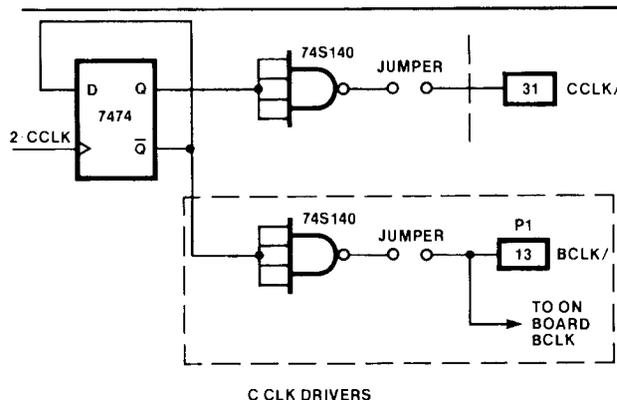
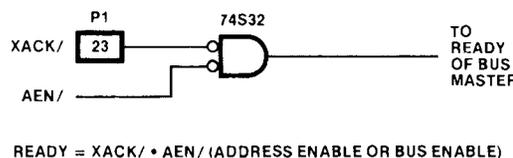
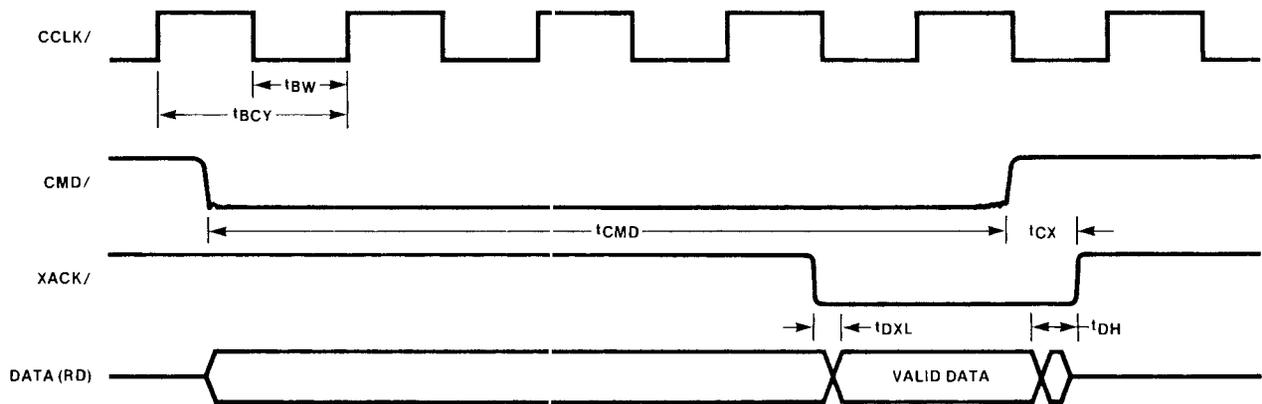

Figure 5-3. C CLK DRIVERS
Figure 5-4. XACK/ Design Example
Figure 5-6. Control Logic AC Characteristics
The AC timing of the command lines is shown in Figure 5-6.
**5.1.1.2 CCLK** This clock provides a MULTIBUS timing source which can be used by slave modules to generate internal timing such as XACK/. The design example is found in Figure 5-3. The master derives a 2X clock source which is divided by 2 using a 7474 Flip-flop. This is done to provide a 50% duty cycle to the clock driver chip (74S140). The output of the clock driver must go to a jumper so that the user has the option to disconnect the signal if another source is available. The AC characteristics are shown in Figure 5-6.
**5.1.1.3 TRANSFER ACKNOWLEDGE** The Transfer Acknowledge signal (XACK/) informs the MULTIBUS master that the operation it required on the bus is completed. The transfer acknowledge (XACK/) circuitry shown in Figure 5-4 is a simple negative true AND gate (74S32). The XACK/ signal is gated through (and is inverted) only if the MULTIBUS master has control (AEN/ is active, see Bus Exchange - Section 5.1.5.). The trace routing of XACK/ on the PC board should avoid command and clock lines to minimize capacitive coupling, and the trace length should be as short as possible. The important AC parameters are shown in Figure 5-6.